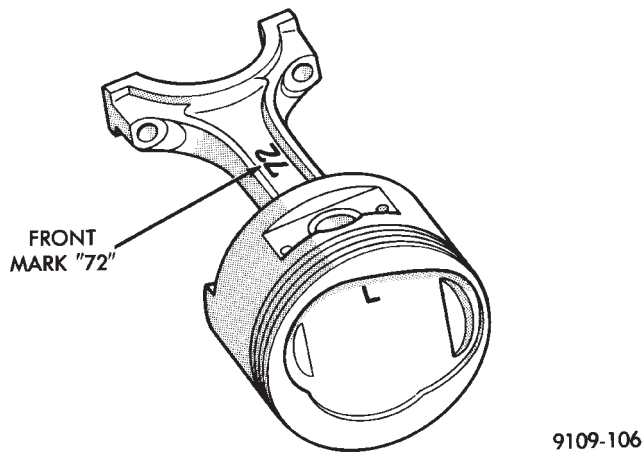

Fig. 14 Identify Piston/Rod Assembly for Cylinder Installation
(6) Position oil ring expander gap at least 45° from the side rail gaps but **not** on the piston pin center or on the thrust direction.
(7) Connecting rod front mark 72 must always face forward, toward timing belt end. (Fig. 14)
(8) Install the piston and connecting rod assembly into their respective bore from the cylinder block top.